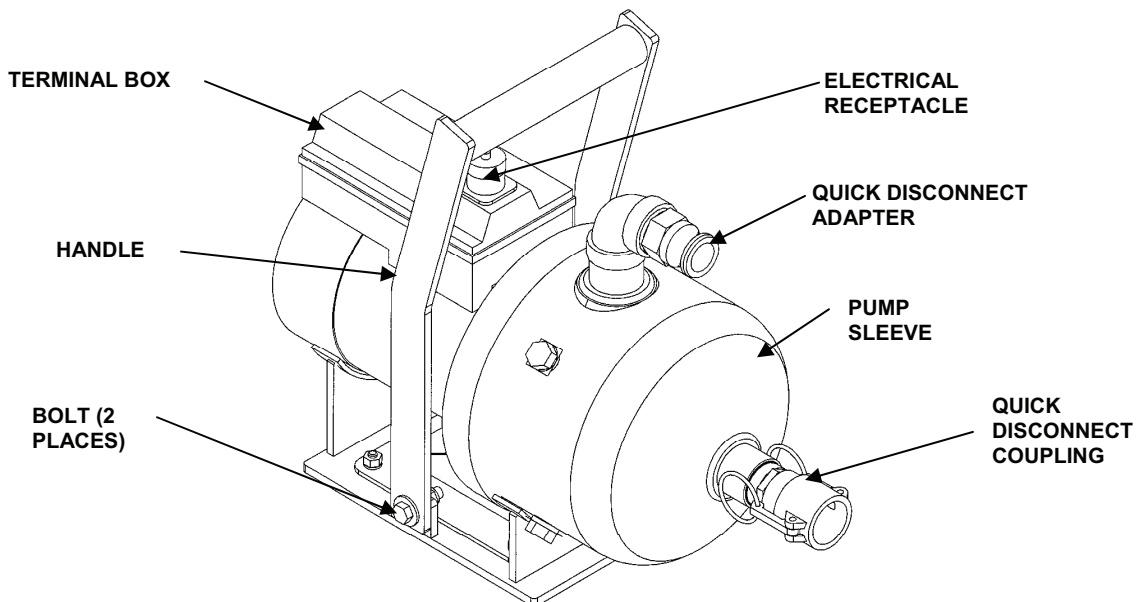

Figure 1. Service Pump.
2. Loosen two (2) bolts on mounting plate.
3. Push handle forward to clear receptacle. See Figure 1.